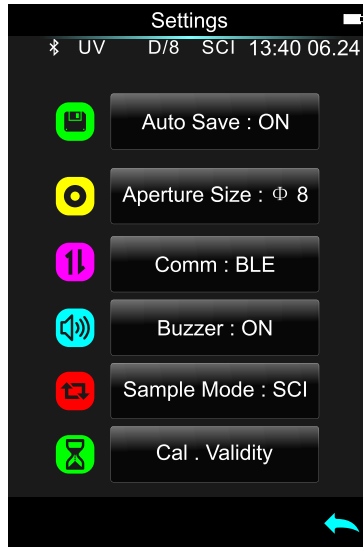

Figure 48 System Settings
In the main menu, click "System Setting" as shown in Figure 48. System Settings include automatic measure save, measure aperture, PC software connection way, buzzer, sample measure mode, calibration validity, measurement control mode, language, time, screen backlight time, screen brightness, etc., By sliding up and down the interface, you can view and select different system setting options, and there is a sliding bar on the right to display the current location.
Step 2: Optical lens position switch. As shown in Figure 48, if it is Φ4mm aperture, it is required to switch to SAV; if it is Φ8mm aperture, switch to MAV.